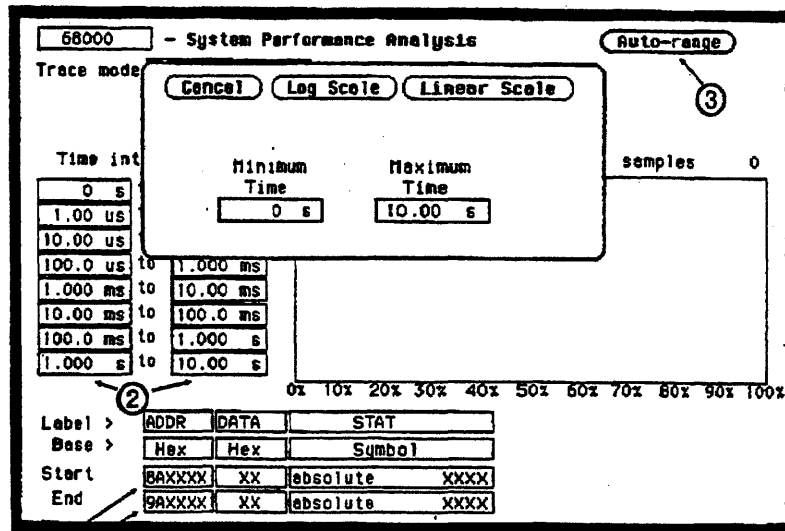

Figure 5-4a. HP 1650A Time Interval Display.
In order to use Time Interval mode, you must define an event that you want timed. At the bottom of the display, note the "Start" and "End" fields (item 1 in figure 5-4a and 5-4b). To define an event, select the appropriate labels in the Start and End fields to define the boundaries.
To define the ranges, select the fields for the lower and upper limits (item 2 in figure 5-4a and 5-4b) and enter the limits of the range. The ranges do not need to be contiguous, but if you leave gaps between the ranges, critical data may be missed. Also, if you overlap ranges, data may be counted multiple times and present a misleading histogram.
To quickly set up all 8 time interval ranges, select the "Auto-range" field (item 3 in figure 5-4a and 5-4b). Enter the "Minimum Time" and "Maximum Time" for all 8 ranges combined. Then, when you select "Log Scale" or "Linear Scale," all 8 ranges will be scaled accordingly between the Minimum and Maximum times. See figure 5-4a and 5-4b for the "Auto-Range" pop-up. Common boundaries of adjacent ranges are not considered overlapped. Values that fall on the common boundary will be included in the highest range.